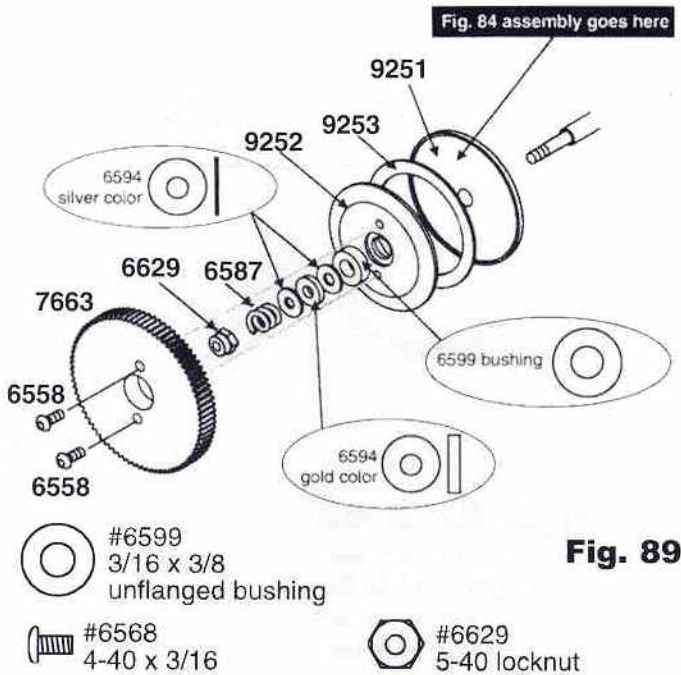

Fig. 89
- **Fig. 89** (1) Add the #9251 inner hub (the assembly of fig. 84) to the shaft, lining up the notch with the roll pin. (2) Install the #9253 clutch disc into the inner hub, then add the #9252 outer hub and #6599 bushing. (3) Install parts in the following order: #6594 (thin silver), #6594 (thick gold), #6594 (thin silver), #6587 black spring, #6629 locknut. (4) Orient the #7663 spur gear side facing out as shown and mount to #9252 with two #6568 screws. (5) Tighten the #6629 locknut so the end of the shaft is flush with the end of the nut. This is a good initial adjustment. For further info on the torque clutch, see the tuning section on page 16 of the Engine Installation Manual.